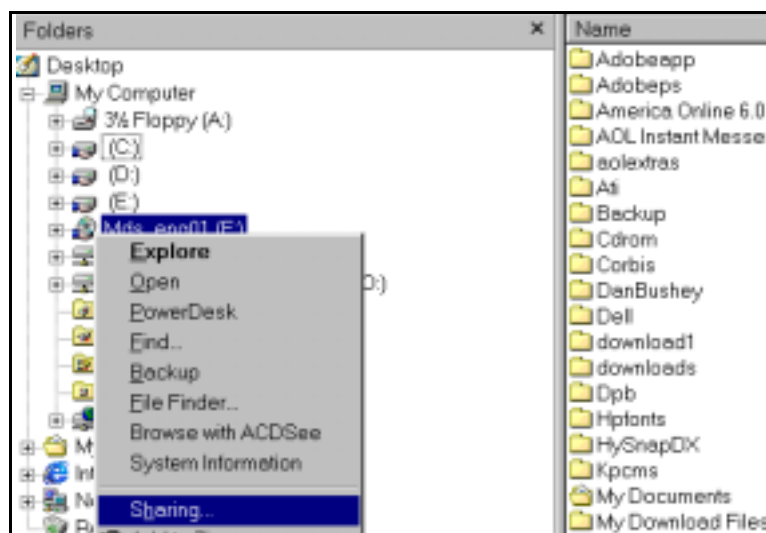

Figure 14-7 Windows Explorer
2. Right-click on *drive* icon in "Exploring" window, and select *Sharing* from drop down menu (see Figure 14-7).